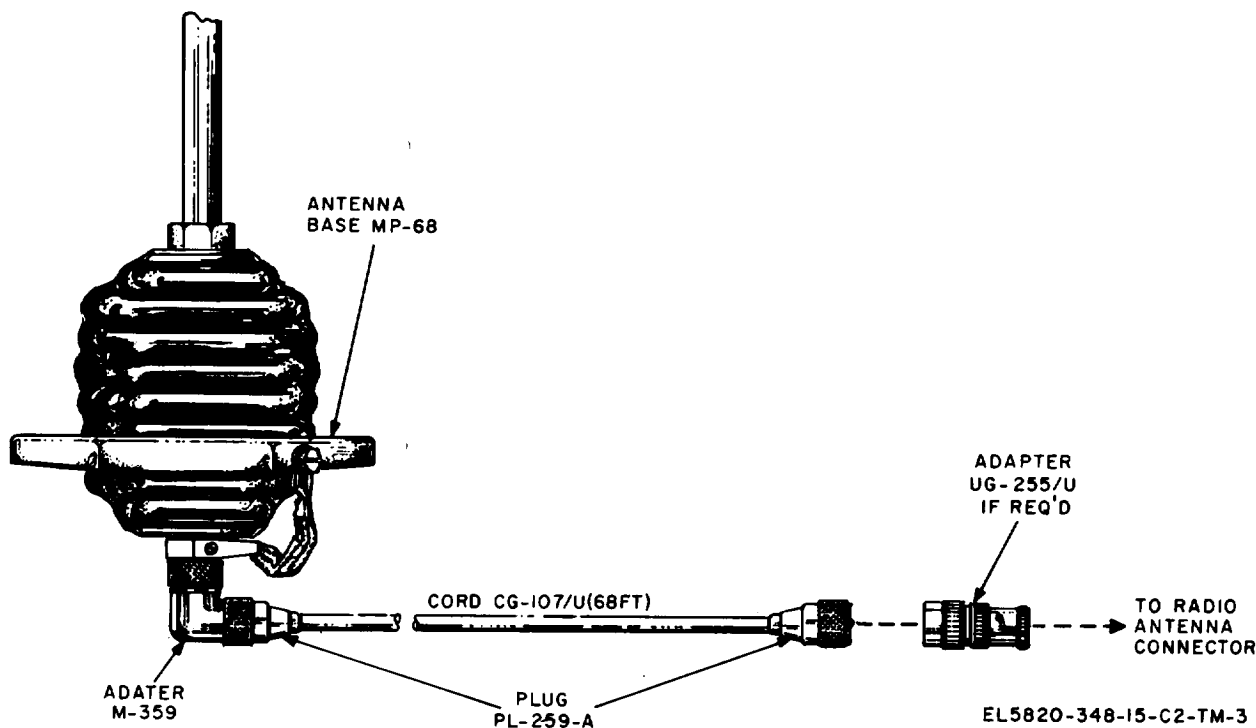

Figure 2-10. Connections of CG-107/U to MP-68 and radio set.
- a. Attach Adapter UG-255/U to the end of the CG-107/U and connect the CG-107/U to the radio antenna connector (BNC type) (fig. 2-10).
To provide a feed-through assembly for running the CG-107/U through the wall of a shelter, Feed-Thru Kit for RC-292 Antenna Lead-In (NSN 5820-00-227-6542) is used. Plug PL-259 (fig. 2-10) is removed, the ca-